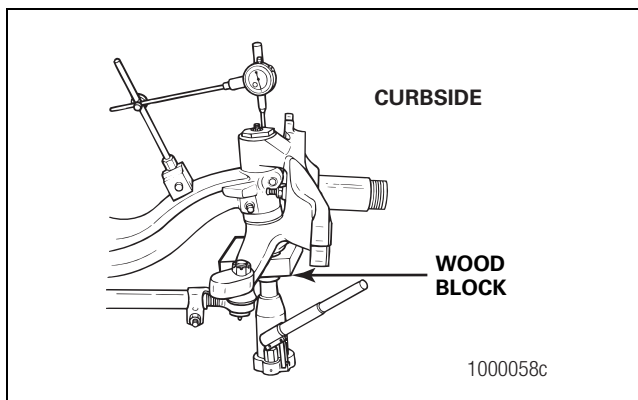

Figure 6.27
5. Raise the jack until the axle beam is slightly raised from the safety stands. Measure and record the dial indicator reading. Figure 6.27.